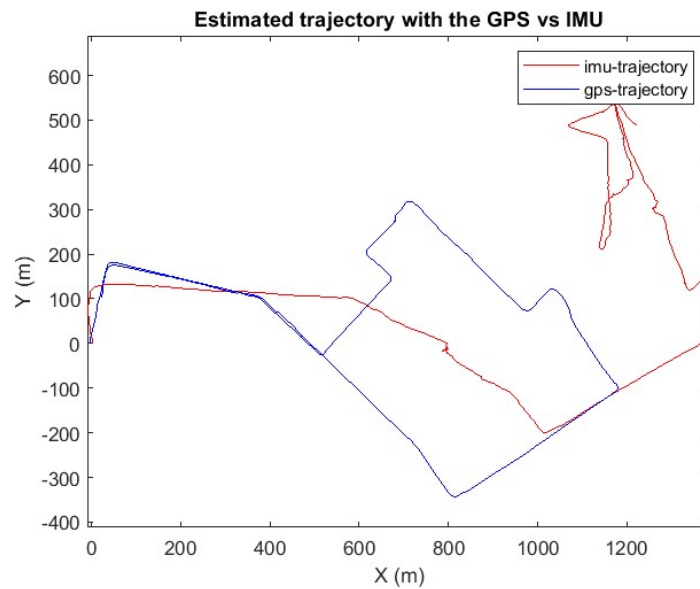

Figure 15
8. In Fig 15 we can observe that there is an offset between the imu trajectory and gps trajectory plots. Because the straight distance calculated using the IMU can be observed to be not reliable. This error in distance estimation shows up between all the turns resulting in the final location not matching the GPS trajectory. And we can see that as time goes the error in position increases. Thus, without a position fix, we cannot expect it to be able to navigate reliably. I think a position fix using GPS should be provided every 10 minutes for reliable navigation. This can vary based on application and the accuracy and availability of other sensors or information sources used in conjunction with the VectorNav